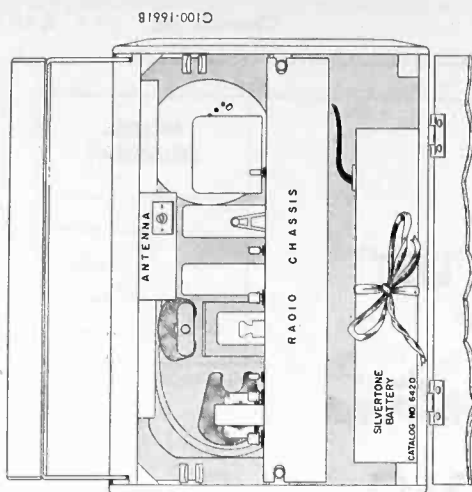

Fig. 2. Rear View of Chassis
The receiver is shipped without the battery. To install the battery first open the back cover, hinged to the bottom of the cabinet and held closed by spring clips midway up the cover. Grasp the cover and pull away from the case. Insert the two (2) pin battery card plug into the socket on top of the battery and arrange the ribbon stapled in the bottom of the cabinet so that one half comes over the top of the battery and the other half under the battery. Slide the battery—with socket and plug on top and to the left, as viewed from the rear of the set—into the space provided in the lower half of the cabinet. Knot the two ends of the ribbon securely as shown in Fig. 2. The battery plug and socket are so designed that the plug cannot be inserted except in the proper position.